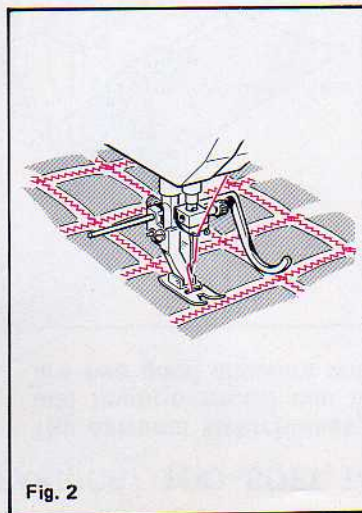

Fig. 2
- Attach the quilting guide to presser foot as shown. Select the desired stitch — straight or an embroidery type — and set the machine accordingly. After completing the first row of stitching, place the guiding prong on this stitched line. The second row then can be placed at the desired distance from first row. Continue working in this way for as many rows as you want (Fig. 2)